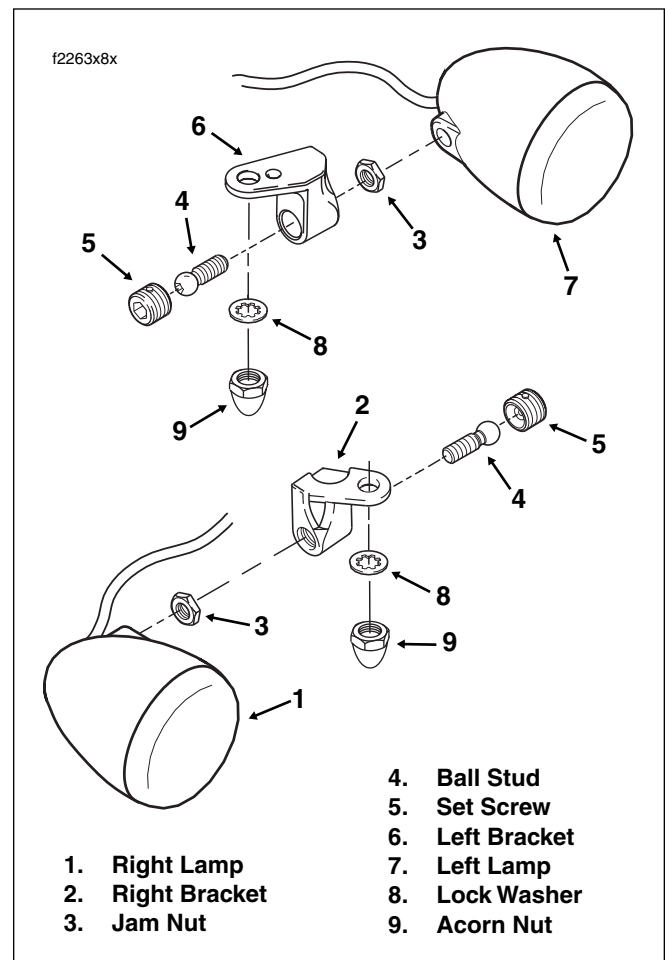

Figure 8-59. Front Turn Signal Lamp Brackets (FLHRS)
- a. Using a 1/4 inch allen head socket, remove set screw from turn signal lamp bracket. See Figure 8-59.
1. Using a 1/4 inch allen head socket, loosen set screw in turn signal lamp bracket. See Figure 8-59.